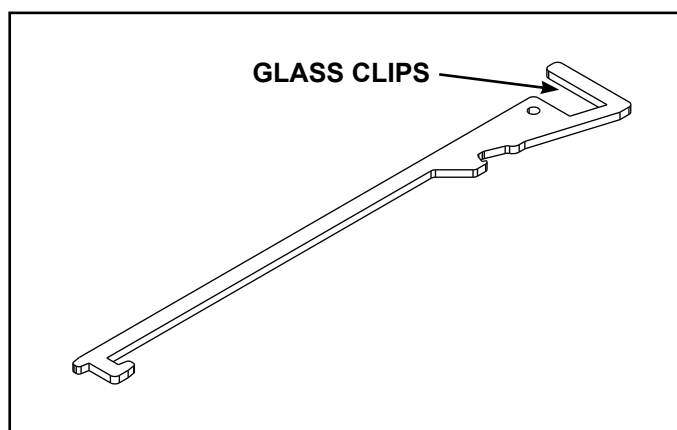

Figure 4.1 Multi-Purpose Tool
- To release glass assembly, use the supplied multi-purpose tool. See Figure 4.1. While supporting the glass assembly, pull the two bottom spring-loaded latches forward and allow them to retract away from the glass assembly. Tilt the bottom of the glass assembly outward until the top latches disengage.